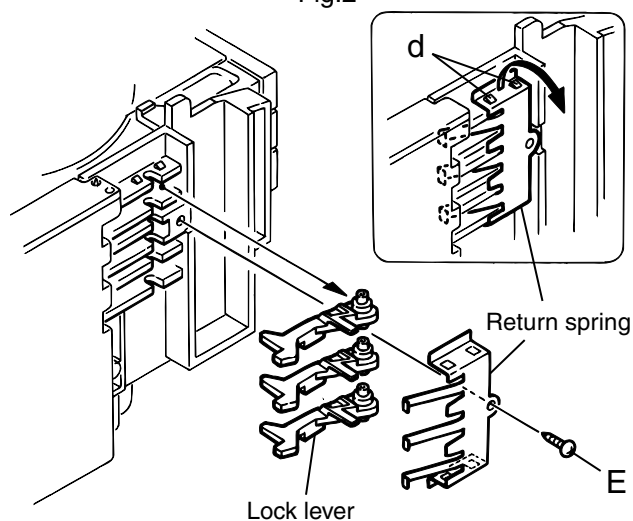

Fig.4
8. From the left side face of the chassis assembly, remove the one screw E retaining both of the return spring and lock lever (See Fig. 4).
9. By removing the pawl at the section d fixing the return spring, dismount the return spring (See Fig.4).
10. Remove the three lock levers (See Fig.4).